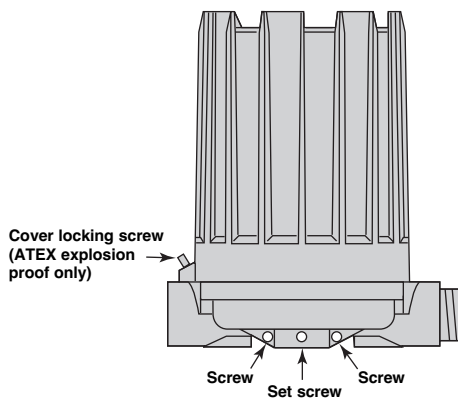
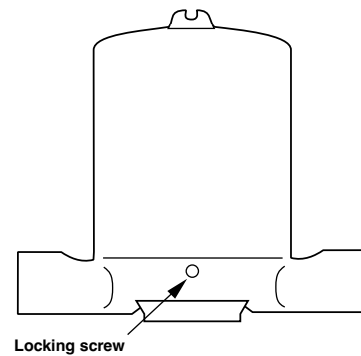

Figure 3
Figure 4
1. Loosen set screw(s) at base of switch housing. Refer to Figure 3.
**CAUTION: DO NOT attempt to unscrew cover of ATEX explosion proof housings before loosening locking screw in cover (Figure 3 - ATEX cast aluminium) or base (Figure 4 - ATEX cast iron) of housing. ALWAYS retighten locking screw after replacing cover.**